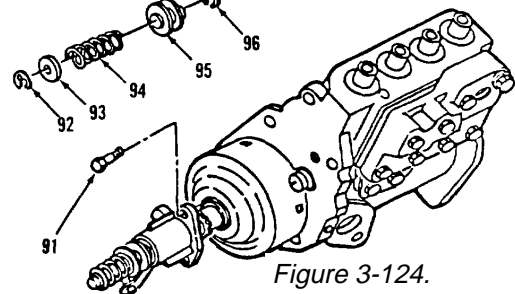

Figure 3-124.
28. Position items 103 thru 92 as an assembly (Figure 3-124) on rear of fuel injection pump. Engage lever (102) with riser (118). Engage piston (98) with fuel rack in fuel injection pump.
29. Install three bolts (91).